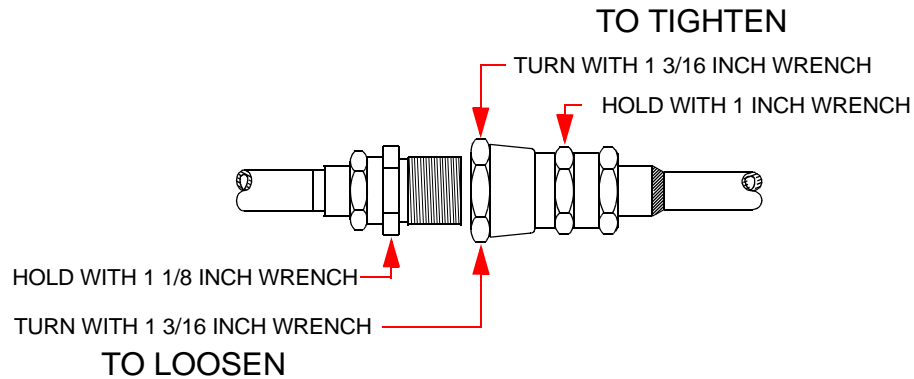
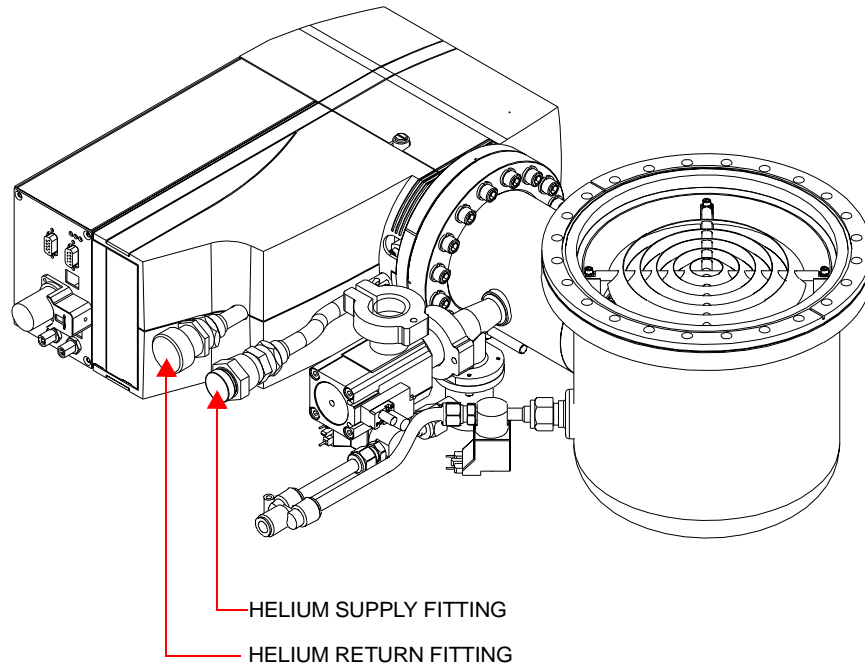

Figure 2-9: Connecting and Disconnecting Helium Flex Line Self Sealing Couplings
Figure 2-10: Helium Supply and Return Fitting Connections
<p>CAUTION</p> <p>Equipment Damage</p> <p>Make sure the helium flex lines are connected and disconnected from the IS 1000 Compressor appropriately, and as shown in Figure 2-9. Failure to follow this procedure could damage connector O-ring seals or cause a helium circuit leak.</p>
NOTE: Refer to Figure 2-9 and Figure 2-10 during this procedure.
2. Connect the Gas Return line to the GAS RETURN connector on the rear of the IS 1000 Compressor and then to the GAS RETURN connector on the On-Board IS Cryopump or helium manifold. Using two wrenches as shown in Figure 2-9, tighten the connector.
3. Connect the Gas Supply line to the GAS SUPPLY connector on the rear of the IS 1000 Compressor and then to the GAS SUPPLY connector on the On-Board IS Cryopump or helium manifold. Using two wrenches as shown in Figure 2-9, tighten the connector.
1. Using two wrenches as shown in Figure 2-9, disconnect the two self sealing coupling connectors quickly to minimize helium leakage.